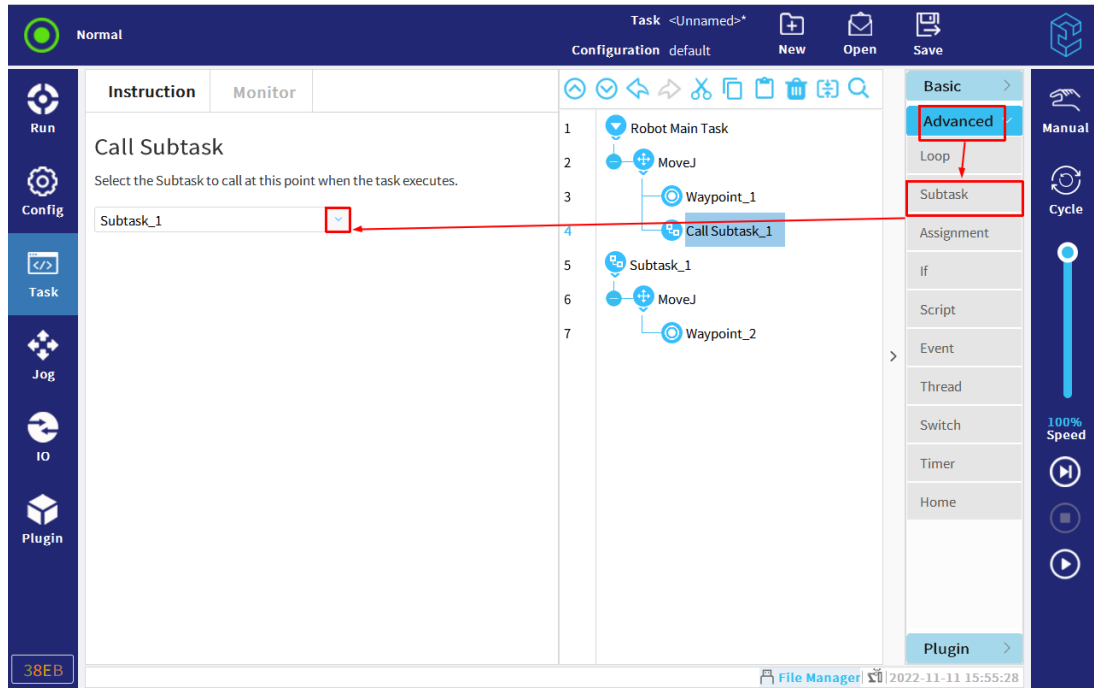

Figure 3-99 : Call subtask
2. Click "Call" in the task tree, click "New" or select an existing subtask file, as shown in **Figure 3-99**.